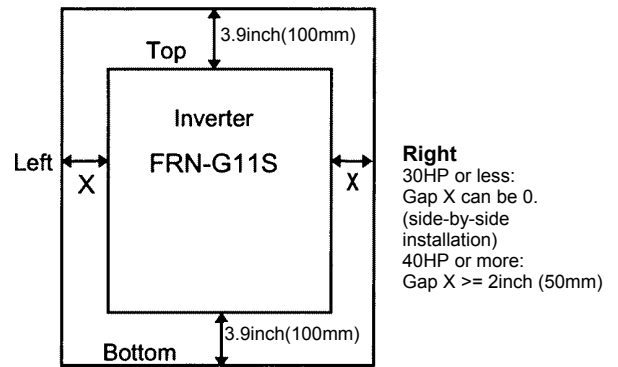

Fig.2-2-1
- ② As heat is generated during inverter operation, the spaces shown in Fig. 2-2-1 are required to ensure sufficient cooling. As heat radiates upward, do not install the product beneath a device sensitive to heat.
- ③ As the heat sink may reach a temperature of 90°C(194°F) during inverter operation, ensure that the material surrounding the product can withstand this temperature.